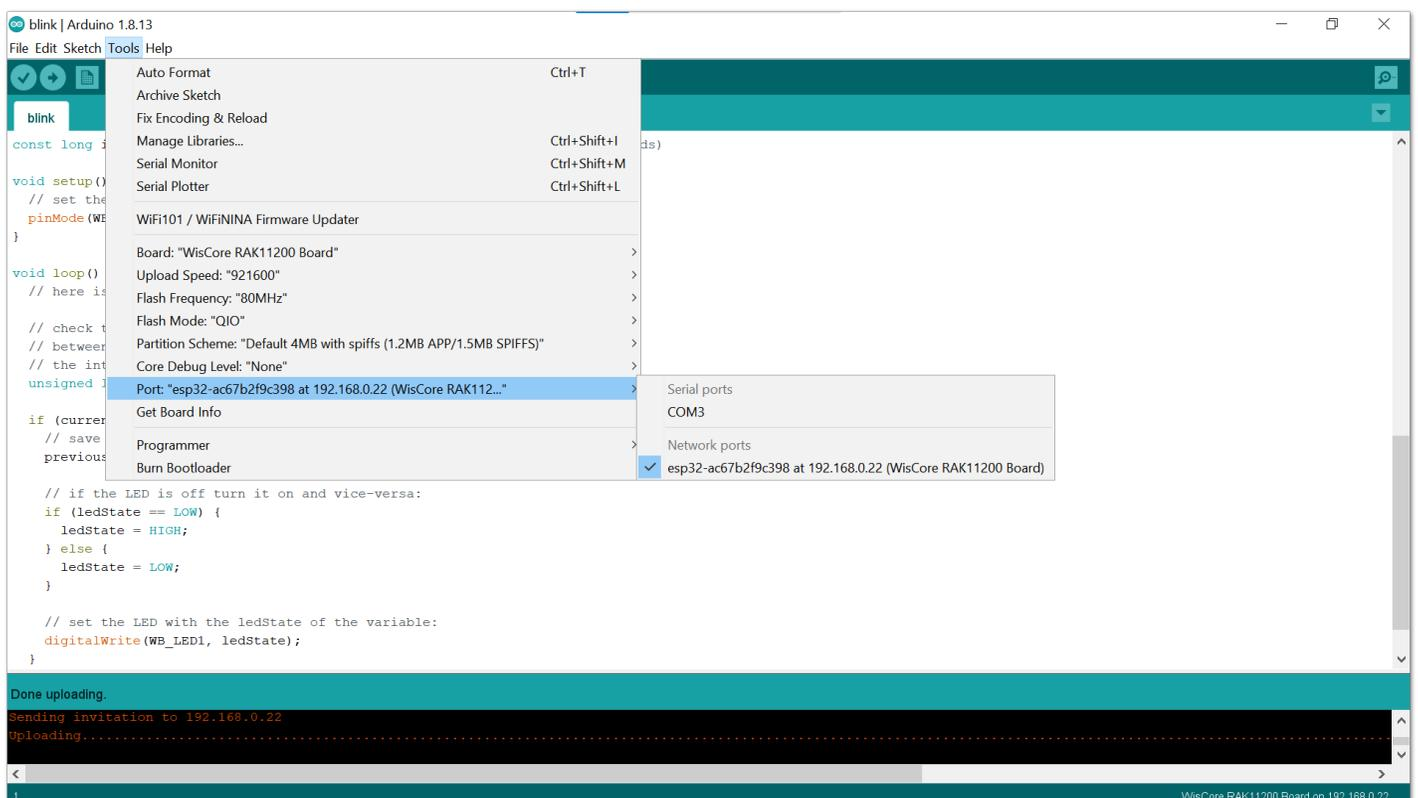

Figure 13: Arduino OTA WiFi Port
5. Open Arduino IDE and select Tools->Port->esp32-xxxx, as shown in Figure 13.